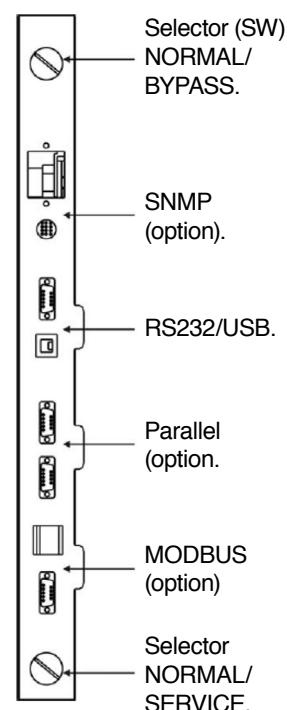

Fig.31. Interface from 100 to 160 kVA models.
- UPS has the following serial interfaces to make an external communication of the operating status and parameters (see figures 31, 32 and 33):